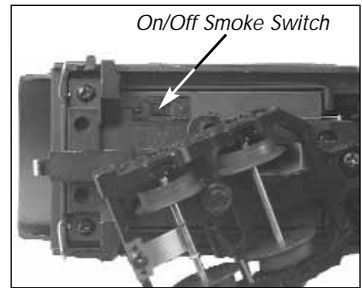

Figure 5 - Smoke Switch
2. If you choose not to prime the unit with fluid, turn the smoke unit switch located under the tender to the OFF position. (See Fig. 5 on page 11) Running the engine without a primed smoke unit may cause damage. See the "ProtoSmoke Unit Operation" section of this book for more information on smoke unit maintenance.
■ If you choose not to add the fluid (or have already added the fluid but choose to run smoke free), turn off the smoke unit switch located under the tender body. (see figure 5) Failure to either add fluid to the unit or to turn it off may damage the smoke unit heating element and/or wicking material.